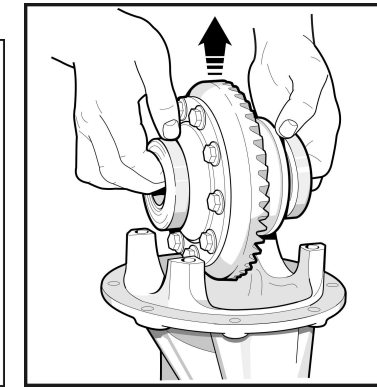

Fig. 7
- 1.11 Carefully remove the differential carrier assembly with the bearings. (Fig. 7)